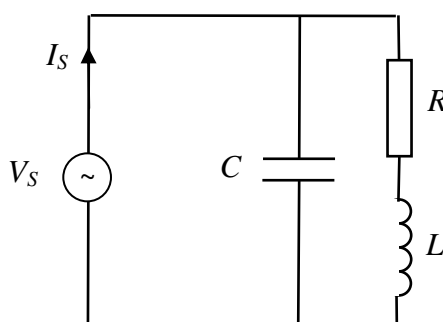

Figure 2.2
- b. (i) Show that the impedance of the circuit shown in Figure 2.2 is: